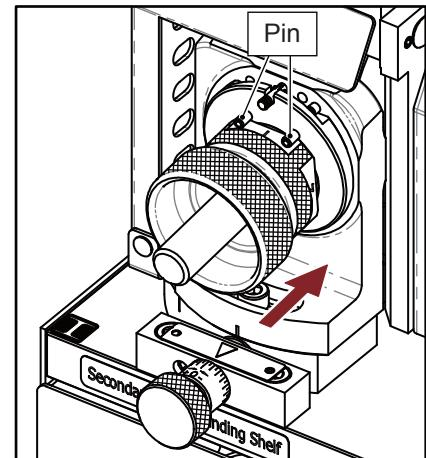
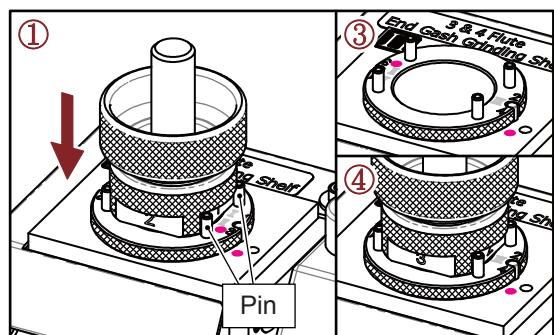

Fig. 12-1
Fig. 12-2
#### 1. 4 Flute Secondary Relief Grinding (I) (Fig. 12-1)
- ① Insert the Chuck set into Shelf (I), align Slot No.1 of the clamping nut with the two pins on the shelf, gently push the Chuck set until the grinding noise stops.
- ② Take the Chuck set out, turn it to grind the Slot No.2, Slot No.3 and Slot No.4 in the same way.
#### 2. 4 Flute End Gash Grinding (II) (Fig. 12-2)
- ① Insert the Chuck set into the bushing on Shelf (II), align Slot No.1 with the two pins where marked as No.(1·3), gently push the Chuck set until the grinding noise stops.
- ② Take the Chuck set out and turn it to grind the Slot No.3 in the same way.
- ③ Take the Chuck set out and turn the bushing to No.(2·4), align No.(2·4) with the pin on the shelf, then insert it to the end.
- ④ Insert the Chuck set into the bushing, align Slot No.2 with the two pins where marked as No.(2·4), gently push the Chuck set until the grinding noise stops.
- ⑤ Take the Chuck set out and turn it to grind the Slot No.4 in the same way.